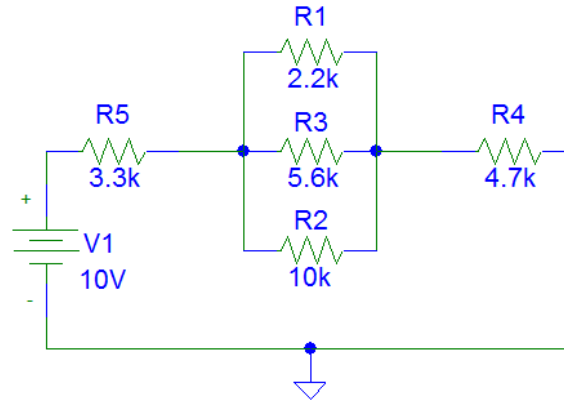

Figure 3 – Prelab circuit.
1. Build the circuit from the pre-lab in Fig. 3 (repeated below).